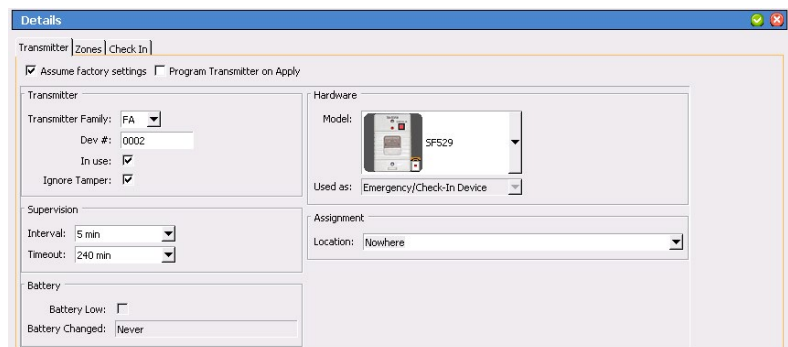

Figure 18: Event Monitor Transmitters Register
5. In the **Transmitters** register of the Event Monitor (shown in Figure 18), check the box beside **Assume factory settings**.